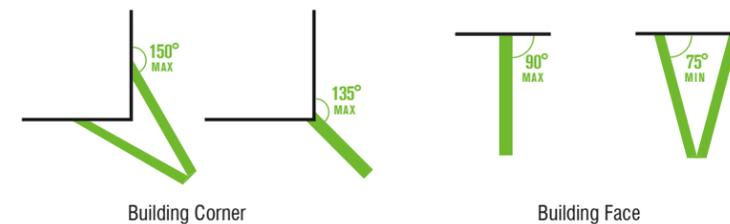

Figure 3.2
2. Retail/Restaurant Tenants are allowed one Projecting Sign per lot frontage on which their establishment is located. Corner tenants may incorporate a Projecting Sign on the building corner with an angle of projection from the building facade between 135 and 150 degrees. Refer to Figure 3.2.
3. The planes of Projecting Sign faces shall be between 75 and 90 from the building facade on which it is mounted. Refer to Figure 3.2.